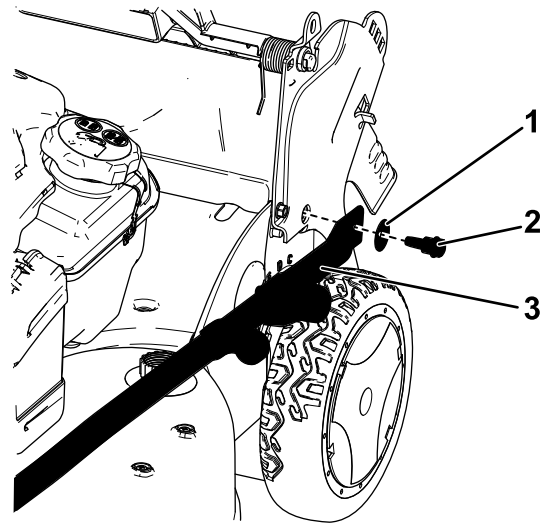

Figure 3
2. Attach the handle ends to the machine housing with 2 washers and 2 handle bolts (Figure 3), but do not tighten the handle bolts.